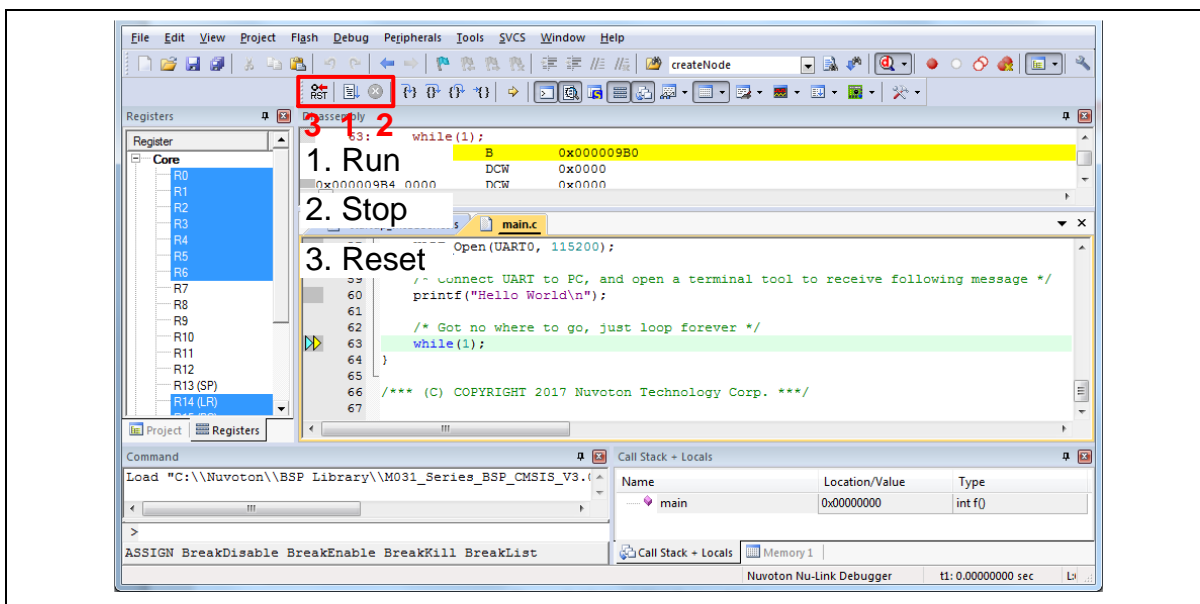
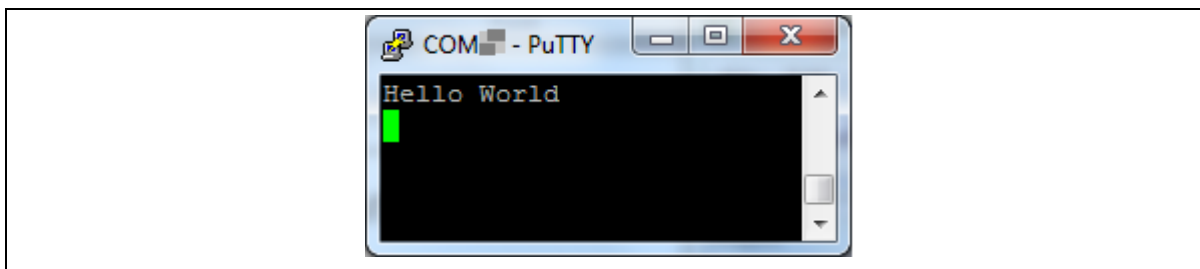

Figure 5.2-18 Keil MDK Debug Mode
Figure 5.2-19 Debug Message on Serial Port Terminal Windows
- (8) Figure 5.2-18 shows the debug mode under Keil MDK. Click “Run” and the debug message will be printed out as shown in Figure 5.2-19. User can debug the project under debug mode by checking source code, assembly language, peripherals’ registers, and setting breakpoint, step run, value monitor, etc.